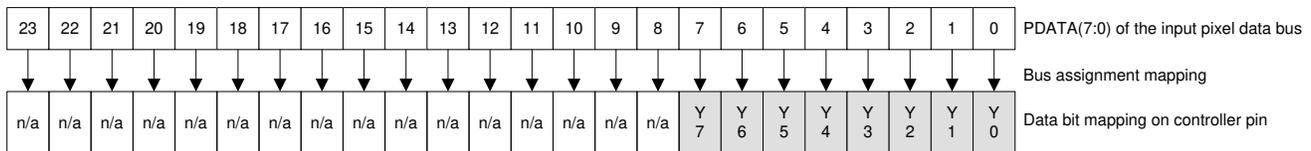

Figure 6-9. BT.656 Interface Mode Bit Mapping
- Calculate clock jitter (in ns) using this formula: $\text{Jitter} = [1 / f_{\text{clock}} - 5.76 \text{ ns}]$. Clock jitter must maintain setup and hold times. BT.656 data bits must be mapped to the DLPC34xx PDATA bus as shown in Figure 6-9 shows BT.656 bus mode YCbCr 4:2:2 source PDATA (23:0) mapping.
- The BT.656 interface accepts 8 bits per color, 4:2:2 YCb/Cr data encoded per the industry standard through PDATA(7:0) on the active edge of PCLK (that is programmable). See Figure 6-9.